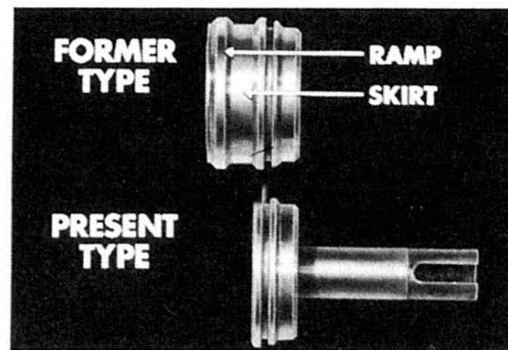

FIG. 2
**PISTON:** Look at the comparison picture, Figure 2. You'll notice that the new direct speed piston is shorter than the former piston. Actually, this shortening is made possible by eliminating the ramp on